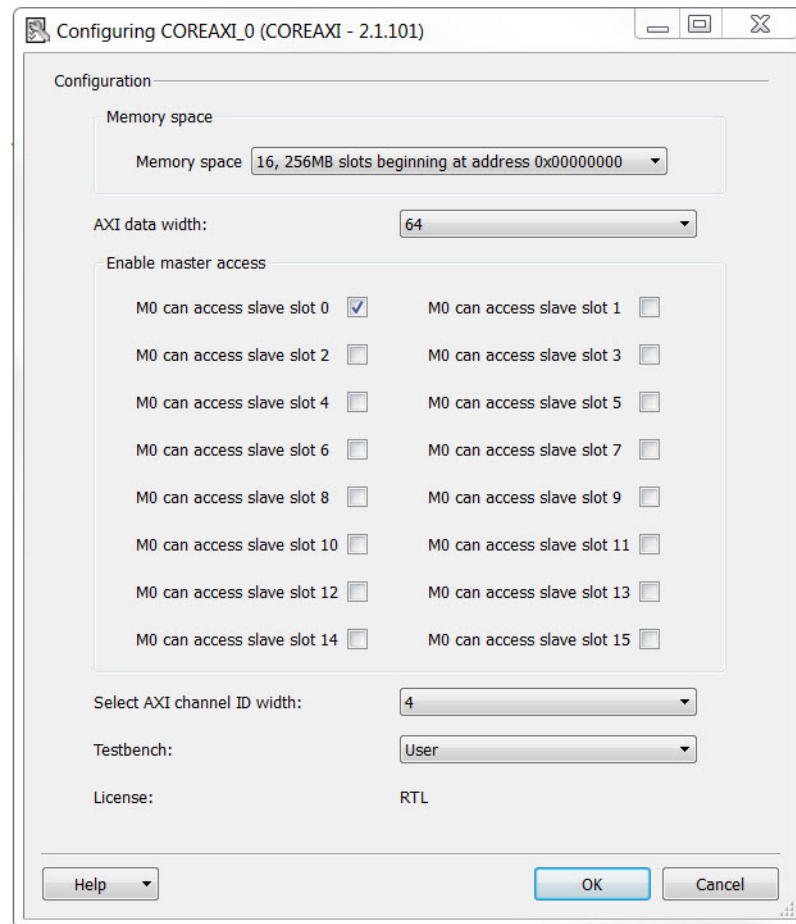

Figure 3-2 • CoreAXI Configuration
1. Instantiate and configure the CoreAXI IP core from the Catalog window. Enable the slots you plan to use for your application as well as the amount of memory per slot that matches your design requirements. Since you are addressing an external DDR memory, your slot size selection should match the space that you plan on addressing from the FPGA fabric master. (Figure 3-2).